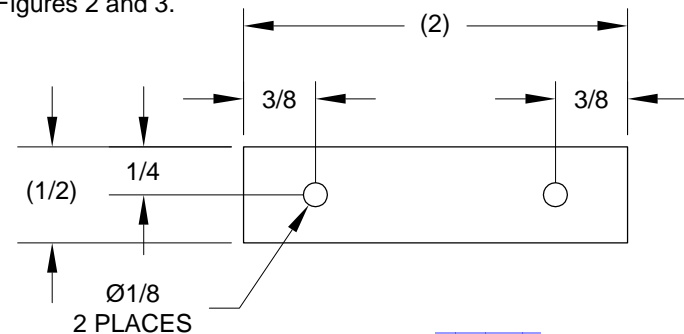

FIGURE 2: F-6114B WEAR BLOCK
Step 4: Modify the two sets of F-6114B and C Wear Blocks using the dimensions given in Figures 2 and 3.